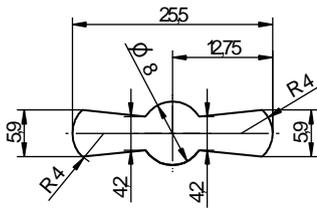
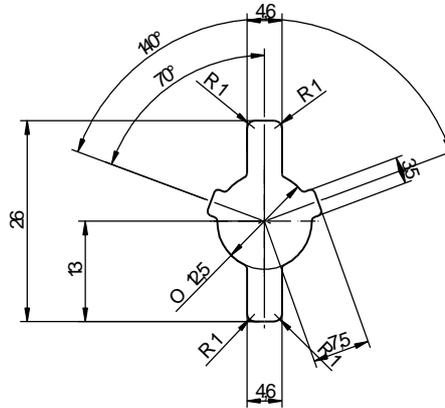

Figure 29: Key guide 86101
Figure 30: Key carrier guide
- For securing the required key cutout in the secure storage unit, it is recommended inserting the Kaba Mauer key guide (see Figure 29) or the Kaba Mauer key carrier guide (see Figure 30). In these cases, taking into consideration DIN 2768-mH, the key in the secure storage unit must be manufactured with the corresponding dimensions.